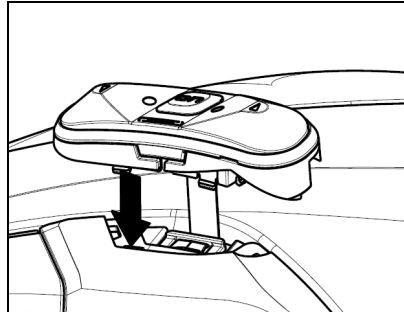

Fig. 17
- Hook up the keypad to the helmet by clicking in the relevant hooks (Fig. 17);